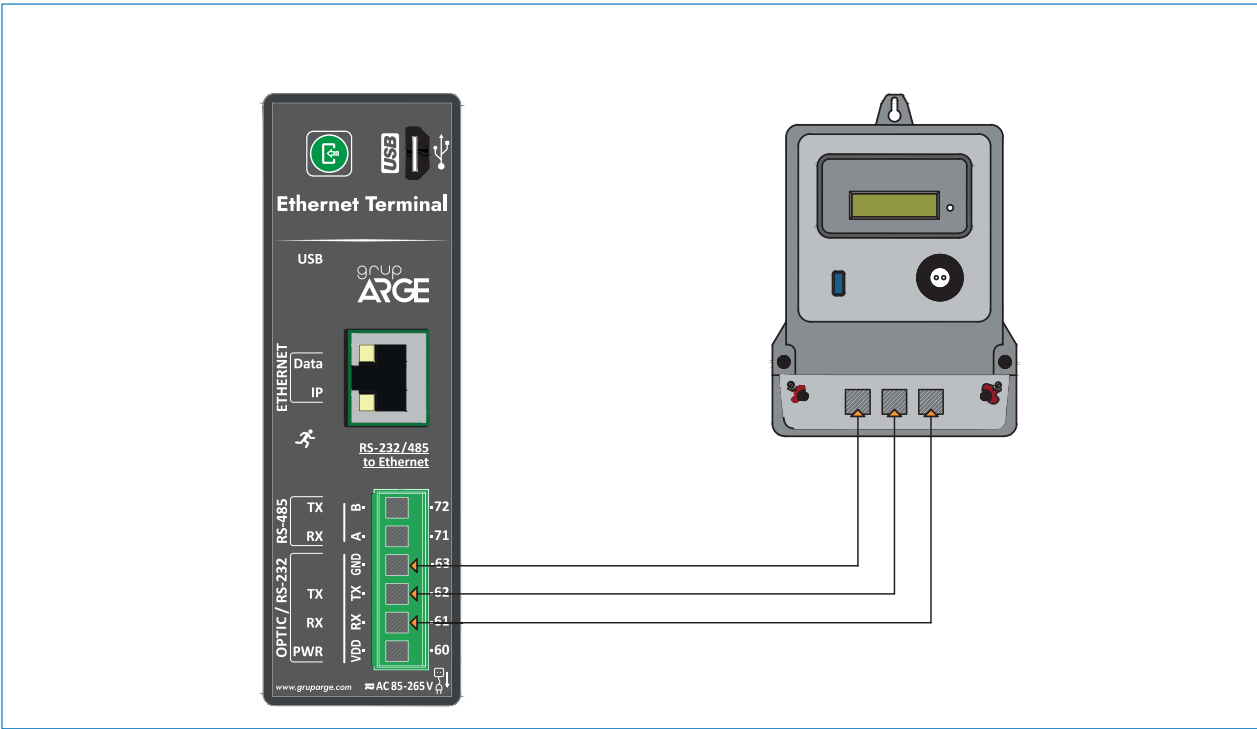

Figure 10
- b. Electricity Meter /RS-232: See Figure 10